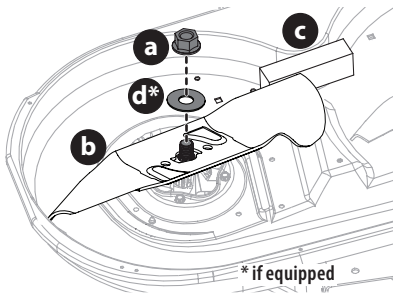

Fig. 46
2. Place a block of wood (c) between the deck housing and the cutting edge of the blade (b) to help in breaking loose the hex nut (a) and washer (d)* securing the blade (b). Use a 15/16 inch wrench to loosen the hex nut (a) and washer (d)* (Fig. 46).
3. When re-installing blades, be sure of the following (Fig. 46):